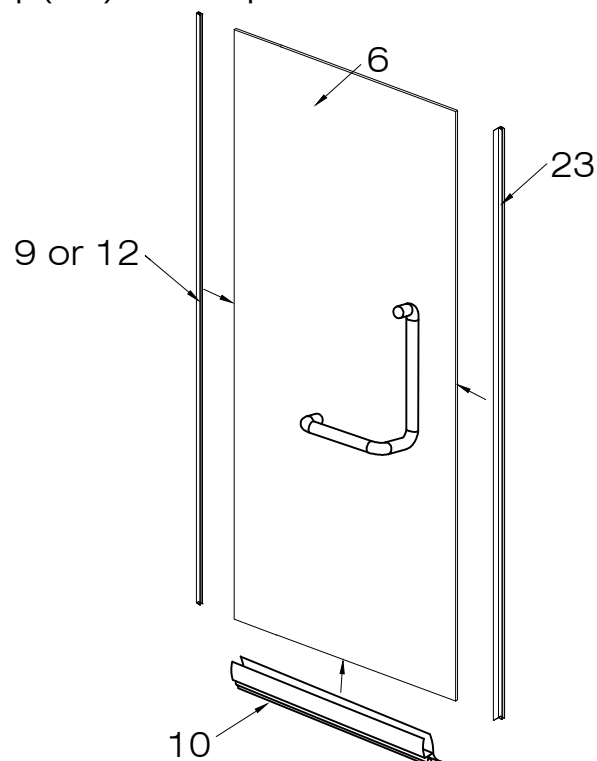

FIG.7
1. Install the door side seal strip (#12) to the door when the door edge towards the wall is away from the turning hinge base (#1). If maximum length of the shower enclosure is required and the door edge is within rubbing distance of the glass support install the side seal strip without bump (#9). [SEE FIG. 7].